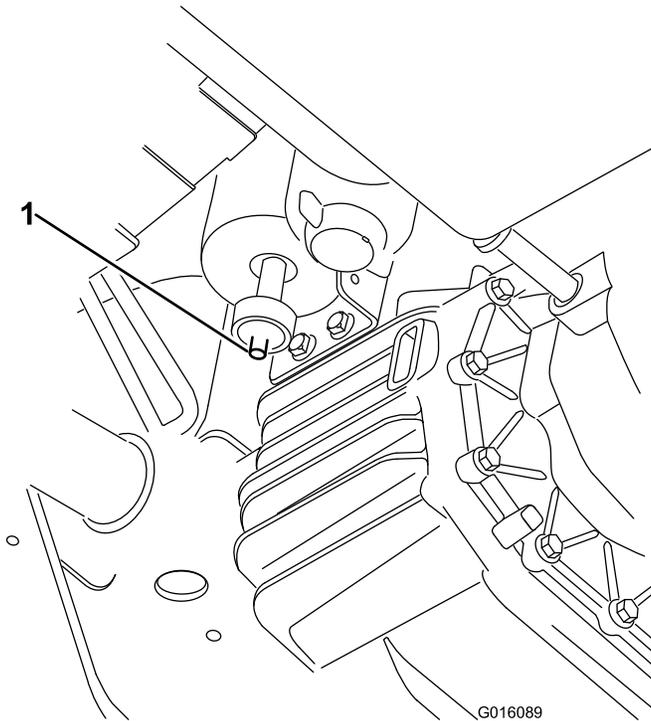

Figure 38
1. Locate the air filter on the bottom of the carbon canister (Figure 38).